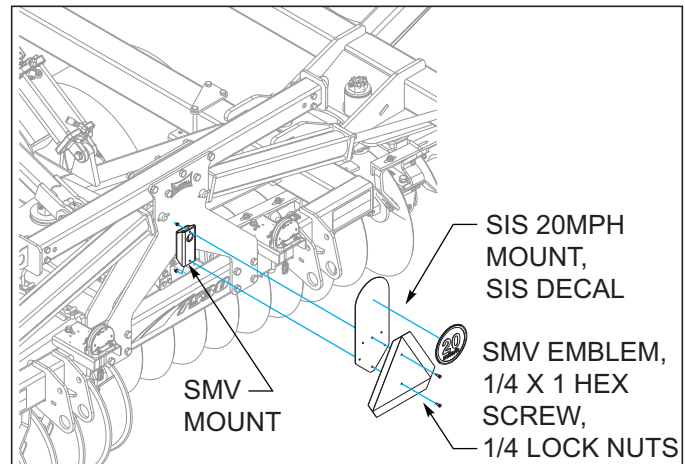

Figure 3-39: SMV/SIS 20mph Instillation
10. Attach smv mount, SIS 20mph mount, SIS decal, smv emblem with 1/4 x 1 hex screws, and 1/4 lock nuts (See Figure 3-39.)